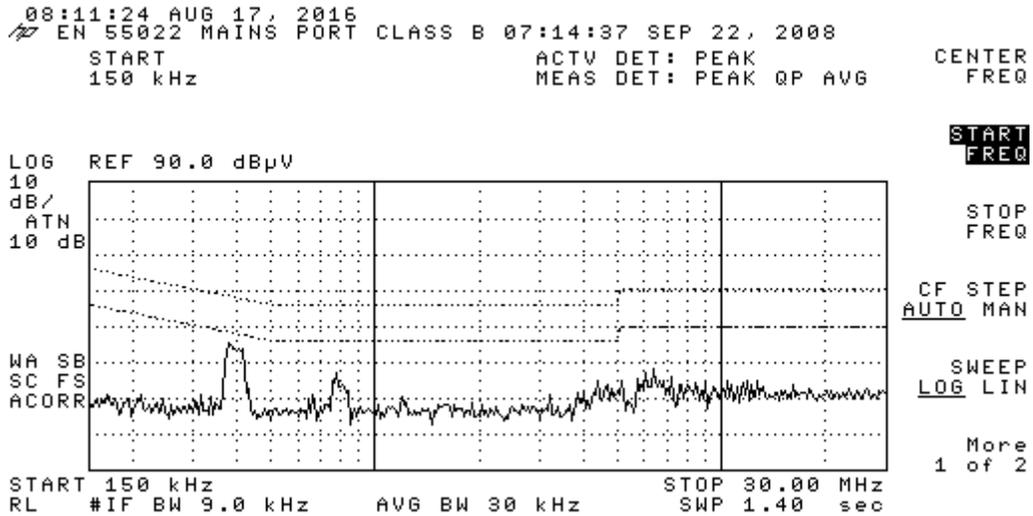

Figure 5. Conducted Emission Measurements: $v_{IN} = 24V$, $v_{OUT} = 5V$ and $I_{OUT} = 1.5A$
The TPSM84203/05/12 has the same frequency spread-spectrum feature as the TPS54302 to reduce EMI caused by the switching regulator. With the proper external input filter, the TPSM84203/05/12 will easily pass the European standard (EN) 55022 Class B EMI test. Figure 5 is a graph of EN55022 Class B conducted emissions measurements for the TPSM84205.